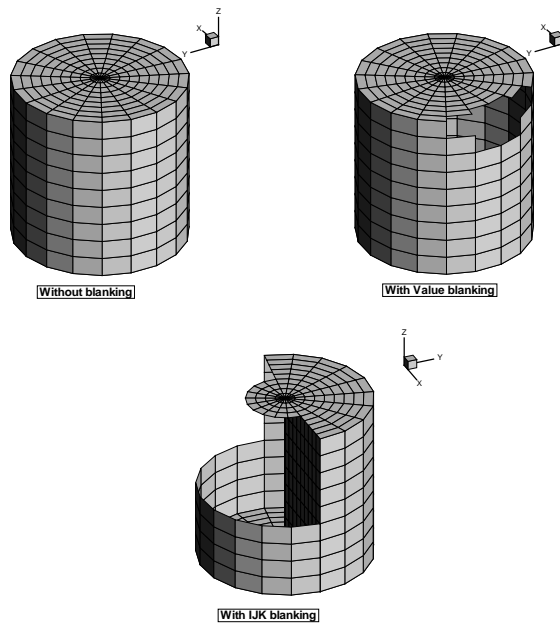

Figure 21-2. Boundary Cell Face plotting without blanking, with value-blanking, and with IJK-blanking.
- **Boundary Cell Faces:** This will plot all surfaces on the outside of the volume zone. For IJK-ordered data this amounts to plotting the minimum and maximum I-, J-, and K-planes. For finite-element volume data this will plot all faces that do not have a neighbor cell (according to the connectivity list). If blanking is turned on, the boundary cells in the blanked region will not be drawn and you will be able to see the interior of the volume zone. Figure 21-2 shows plots of a volume zone with surface to plot set to Boundary Cell Faces without blanking, with value blanking, and with IJK-blanking.